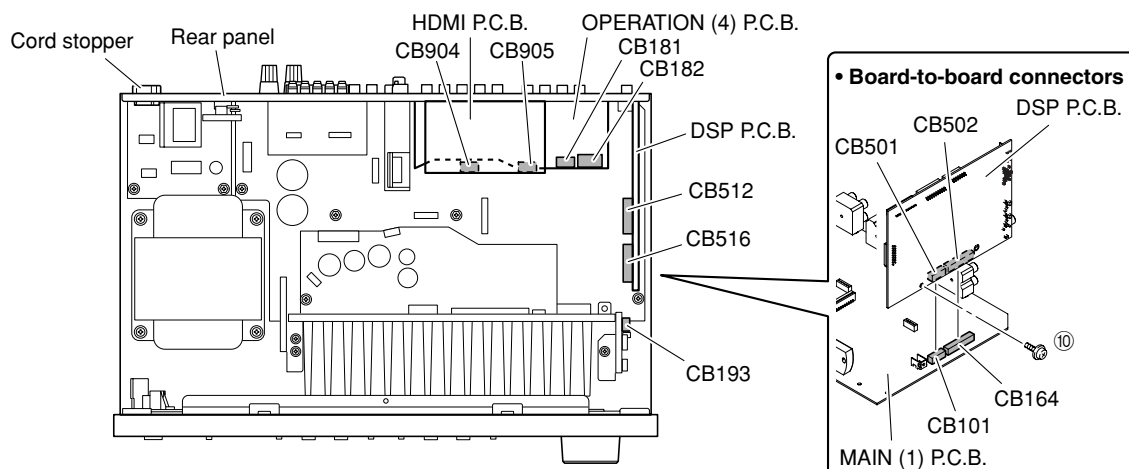

Fig. 2
- a. Remove CB904 and CB905. (Fig. 2)
- c. Remove HDMI P.C.B.. (Fig. 2)
4. Removal of OPERATION (4) P.C.B.
- a. Remove CB193 and CB182. (Fig. 2)
- c. Remove OPERATION (4) P.C.B.. (Fig. 2)
- b. Remove cord stopper. (Fig. 2)
- c. Remove rear panel. (Fig. 2)
- d. Remove screw (⑩). (Fig. 2)
- e. Remove CB512 and CB516. (Fig. 2)
- f. Remove the DSP P.C.B. which is connected directly to the MAIN (1) P.C.B. with board-to-board connectors. (Fig. 2)